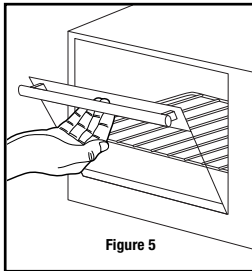

Figure 5
Step 2: Pull down the oven door carefully (See Figure 5).